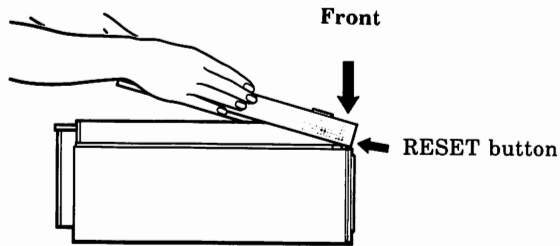

Figure 2-6. Replace the bottom cover.
- Position the front of the cover over the **RESET** button **CAREFULLY** to avoid damaging it. See Fig. 2-6.